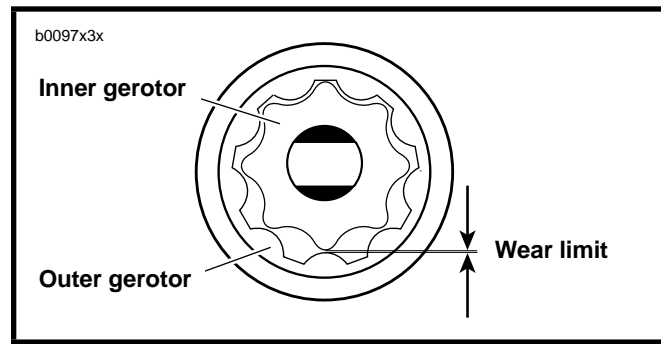

Figure 3-47. Gerotor Wear Limits
2. See Figure 3-47. Inspect both gerotor sets for wear. Mesh pieces of each set together as shown. Use a feeler gauge to determine clearance.